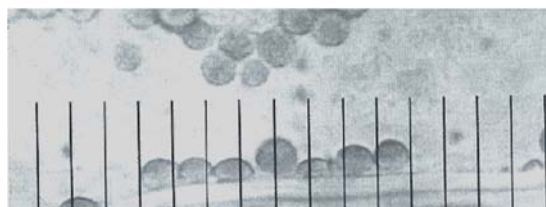

Fig 2.3
Fig. 2.3 shows the view that the student saw when using the eyepiece graticule, calibrated in **c(i)** at the high-power of a microscope.
- (ii) Using this and the information in **c(i)**, calculate the actual mean length of one chloroplast as shown in Fig 2.3.